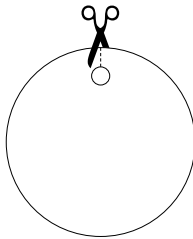
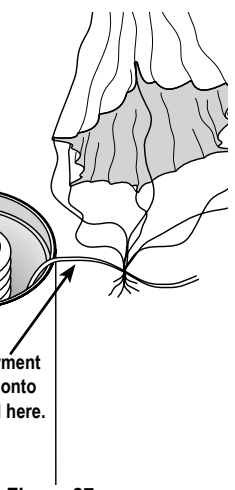

Figure 26
Figure 27
1. Punch the deployment disk out of the die-punched heavy paper. Cut a notch in the disk (Figure 26). Slip the notch onto the shock cord just below the knot (Figure 27).